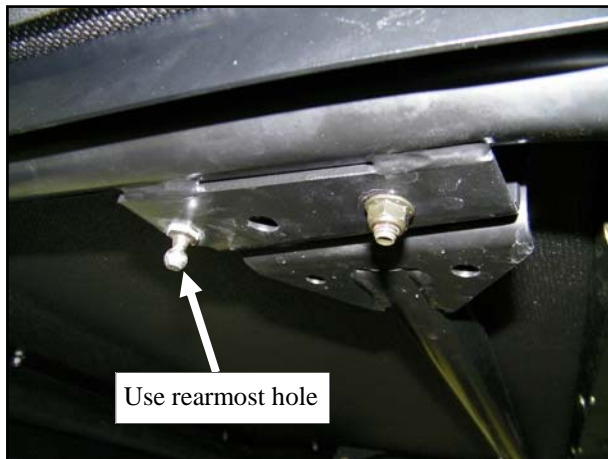

Fig. 8.1 (view of ball stud, passenger’s side)
8.1 Install two ball studs to the OPS (one on each side) as shown in figure 8.1.
8.5 Install the gas spring after the door is fully adjusted. Attach the large end to the ball stud installed in figure 8.1. The thin rod end should be attached to the door.